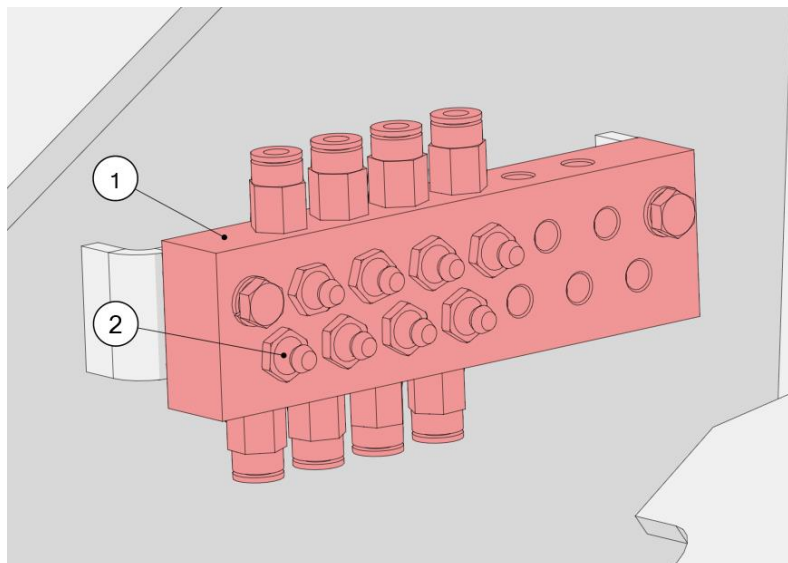

Figure 68. The central lubrication of the bearings
The Z514 Baler is fitted with the integrated lubrication system of bearings. The collective bars (1) with grease nipples (2) enable the lubrication of the machine bearings (Figure 68). The collective bars are located on the left- and right-hand side of the Baler. They must be lubricated, according to the lubrication plan (Chapter 5.8).